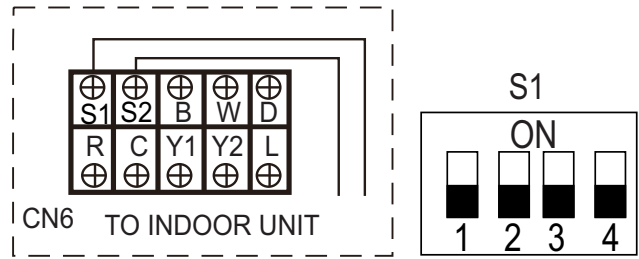

Fig. 22 —Option 1: Non-polarity RS485 Communication
2. All connections between the indoor and outdoor units must be made as shown in Figures 22 - 23.